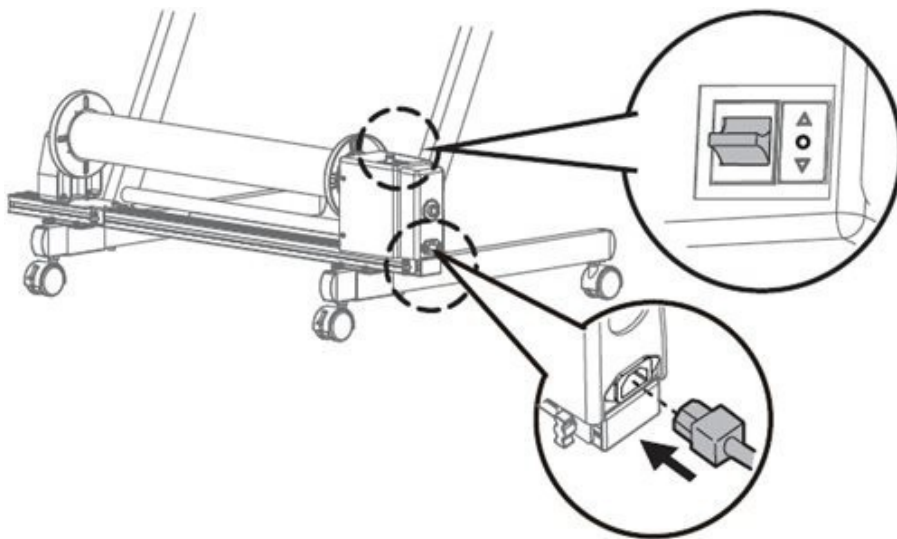

Figure 35
6. Make sure that the operation switch is at the left. Connect the power cable. See Figure 35.
There are warning labels posted in dangerous places in this printer. The contents of the labels should always be followed. See Figure 35.